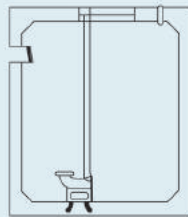

Fig 2
5. Install the pipe (RE:Fig2), then, install the discharge pipe laying.